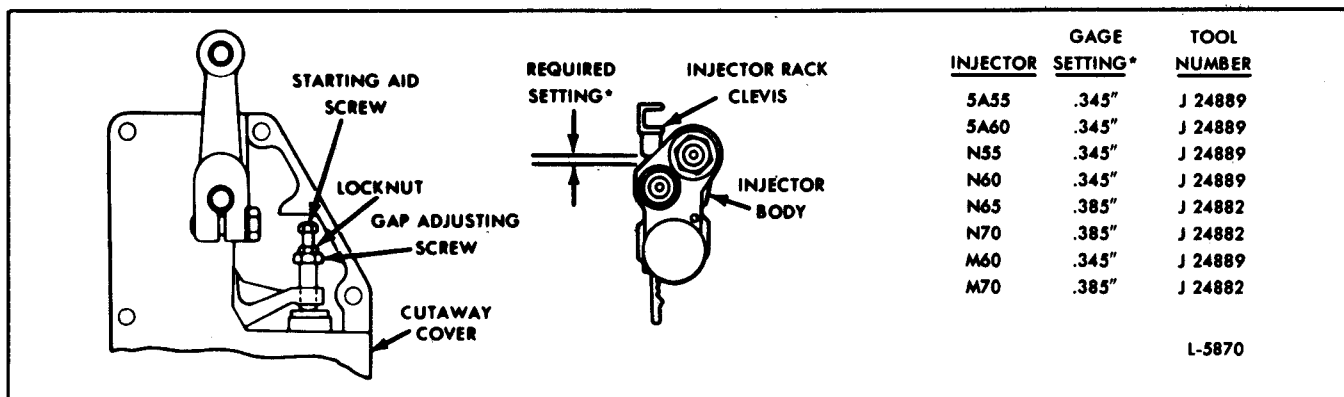

Fig. 5 - Starting Aid Screw Adjustment
a. Install a cutaway governor cover assembly, on the governor housing (Fig. 5).
c. Hold the gap adjusting screw to keep it from turning and adjust the starting aid screw to obtain the required setting between the shoulder on the injector rack clevis and the counter bore in the injector body (Fig. 5). Move the gage back and forth along the injector rack until a clearance of 1/64" is noted. The setting is measured at any convenient cylinder. Tighten the locknut on the starting aid screw sufficiently to prevent oil